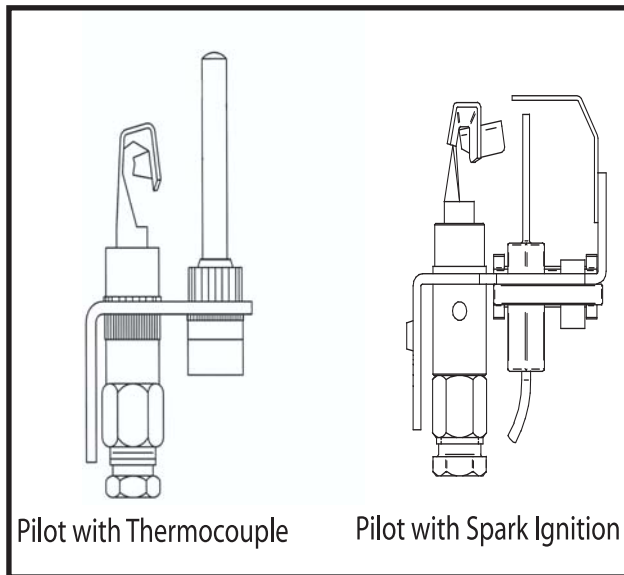

FIG. 36 Pilot with Thermocouple and Spark Ignition
1. With the main burners on and firing, unscrew the thermocouple connection from the gas valve (FIG 36) and remove from the fitting. See Figure 25 to locate the thermocouple outlet connection on the gas valve.